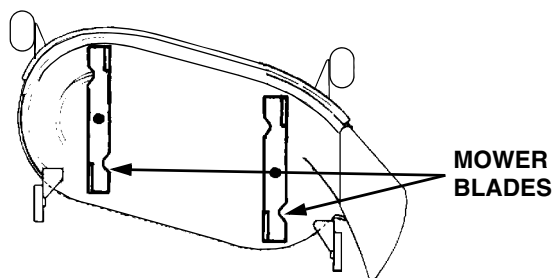

Figure 31
2. Position the mower blades so the ends of each blade point to the front and the rear of the tractor (See Figure 31). Lower the tractor implement lift handle to a mid-height setting.